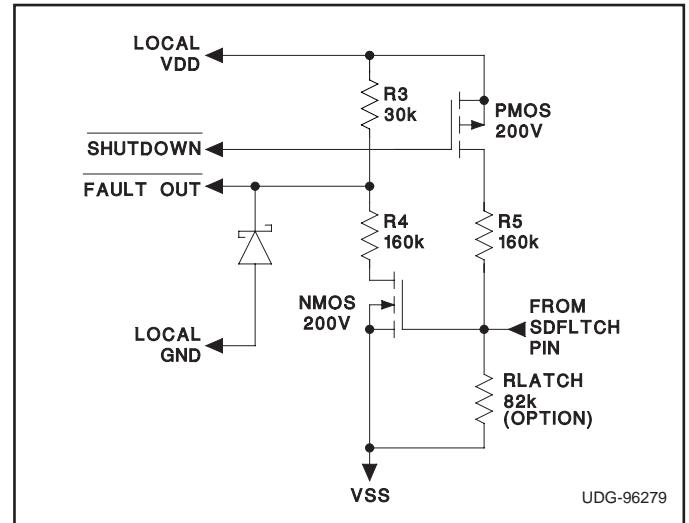

Figure 6. Possible Level Shift Circuitry to Interface to the UCC3921, showing component values selected for a typical telecom application.
Some type of circuit is needed to interface with the UCC3921 via SDFLTCH, such as opto-couplers or level shift circuitry. Figure 6 depicts one implementation of level shift circuitry that could be used, showing component values selected for a typical -48V telecommunications application. There are three communication conditions which could occur; two of which are Hot Swap Power Manager (HSPM) state output indications, and the third being an External Shutdown.
- 1) When open, and under a non-fault condition, SDFLTCH is pulled to a low state. In Figure 6, the N-channel level shift transistor is off, and the FAULT OUT signal is pulled to LOCAL VDD through R3. This indicates that the HSPM is not faulted.
- 2) When a fault is detected by the fault timer or undervoltage lockout, this pin will drive to a high state, indicating that the external power FET is off. In Figure 6, the N-channel level shift transistor will conduct, and the FAULT OUT signal will be pulled to a Schottky Diode voltage drop below LOCAL GND. This indicates that the HSPM is faulted. The Schottky Diode is necessary to ensure that the FAULT OUT signal does not traverse too far below LOCAL GND, making fault detection difficult.
If a  $5\text{k} < R_{\text{LATCH}} < 250\text{k}\Omega$  resistor is tied between SDFLTCH & VSS, as optionally shown in Figure 6, then the latched operating mode (described earlier) will be invoked upon the occurrence of a fault.